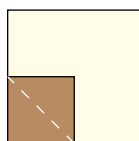
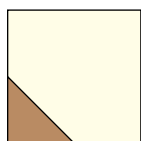

Fig. 10
Fig. 11
5. Place (1) 2 ½" Fabric C square on the bottom left corner of (1) 4 ½" Fabric D square, right sides together (Fig. 10). Sew across the diagonal of the smaller square from the upper left corner to the lower right corner (Fig. 10). Flip open the triangle formed and press. Trim away the excess fabric from behind the triangle ¼" away from the sewn seam (Fig. 11).